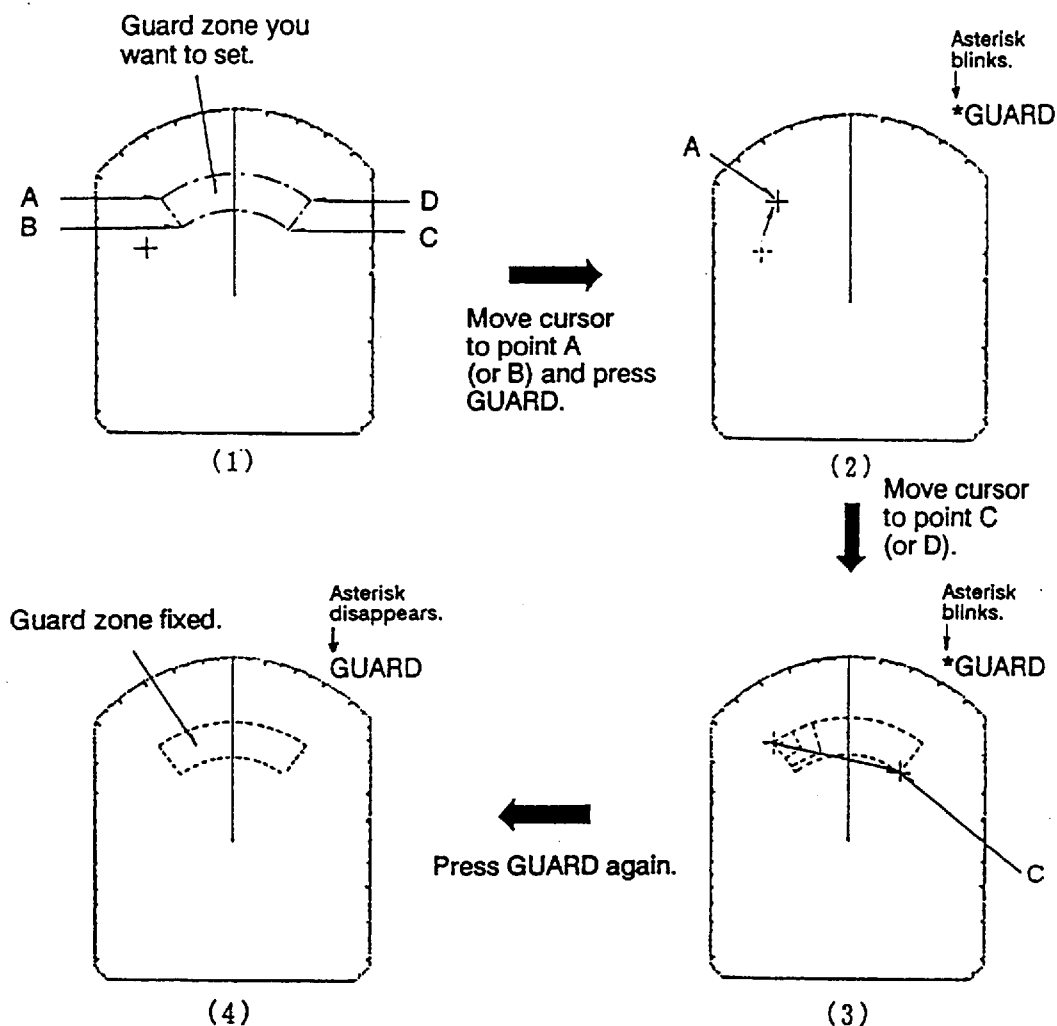

Figure 2-14 Setting Guard Zone
1. Mentally create the guard zone you want to display on-screen. See Figure 2-14 (1).
2. Set the upper (lower) left edge of the guard zone with the cursor. Press the **GUARD** touchpad. The indication "*GUARD" (asterisk blinking) appears at the upper right-hand side of the screen. See Figure 2-14 (2). The asterisk indicates the guard zone is partially set, but the alarm function has not been actuated. It disappears once the guard zone is set completely.
3. Moving the trackball clockwise, set the lower (upper) right edge of the guard zone. The guard zone now appears on the display and the alarm function has been actuated. See Figure 2-14 (3).